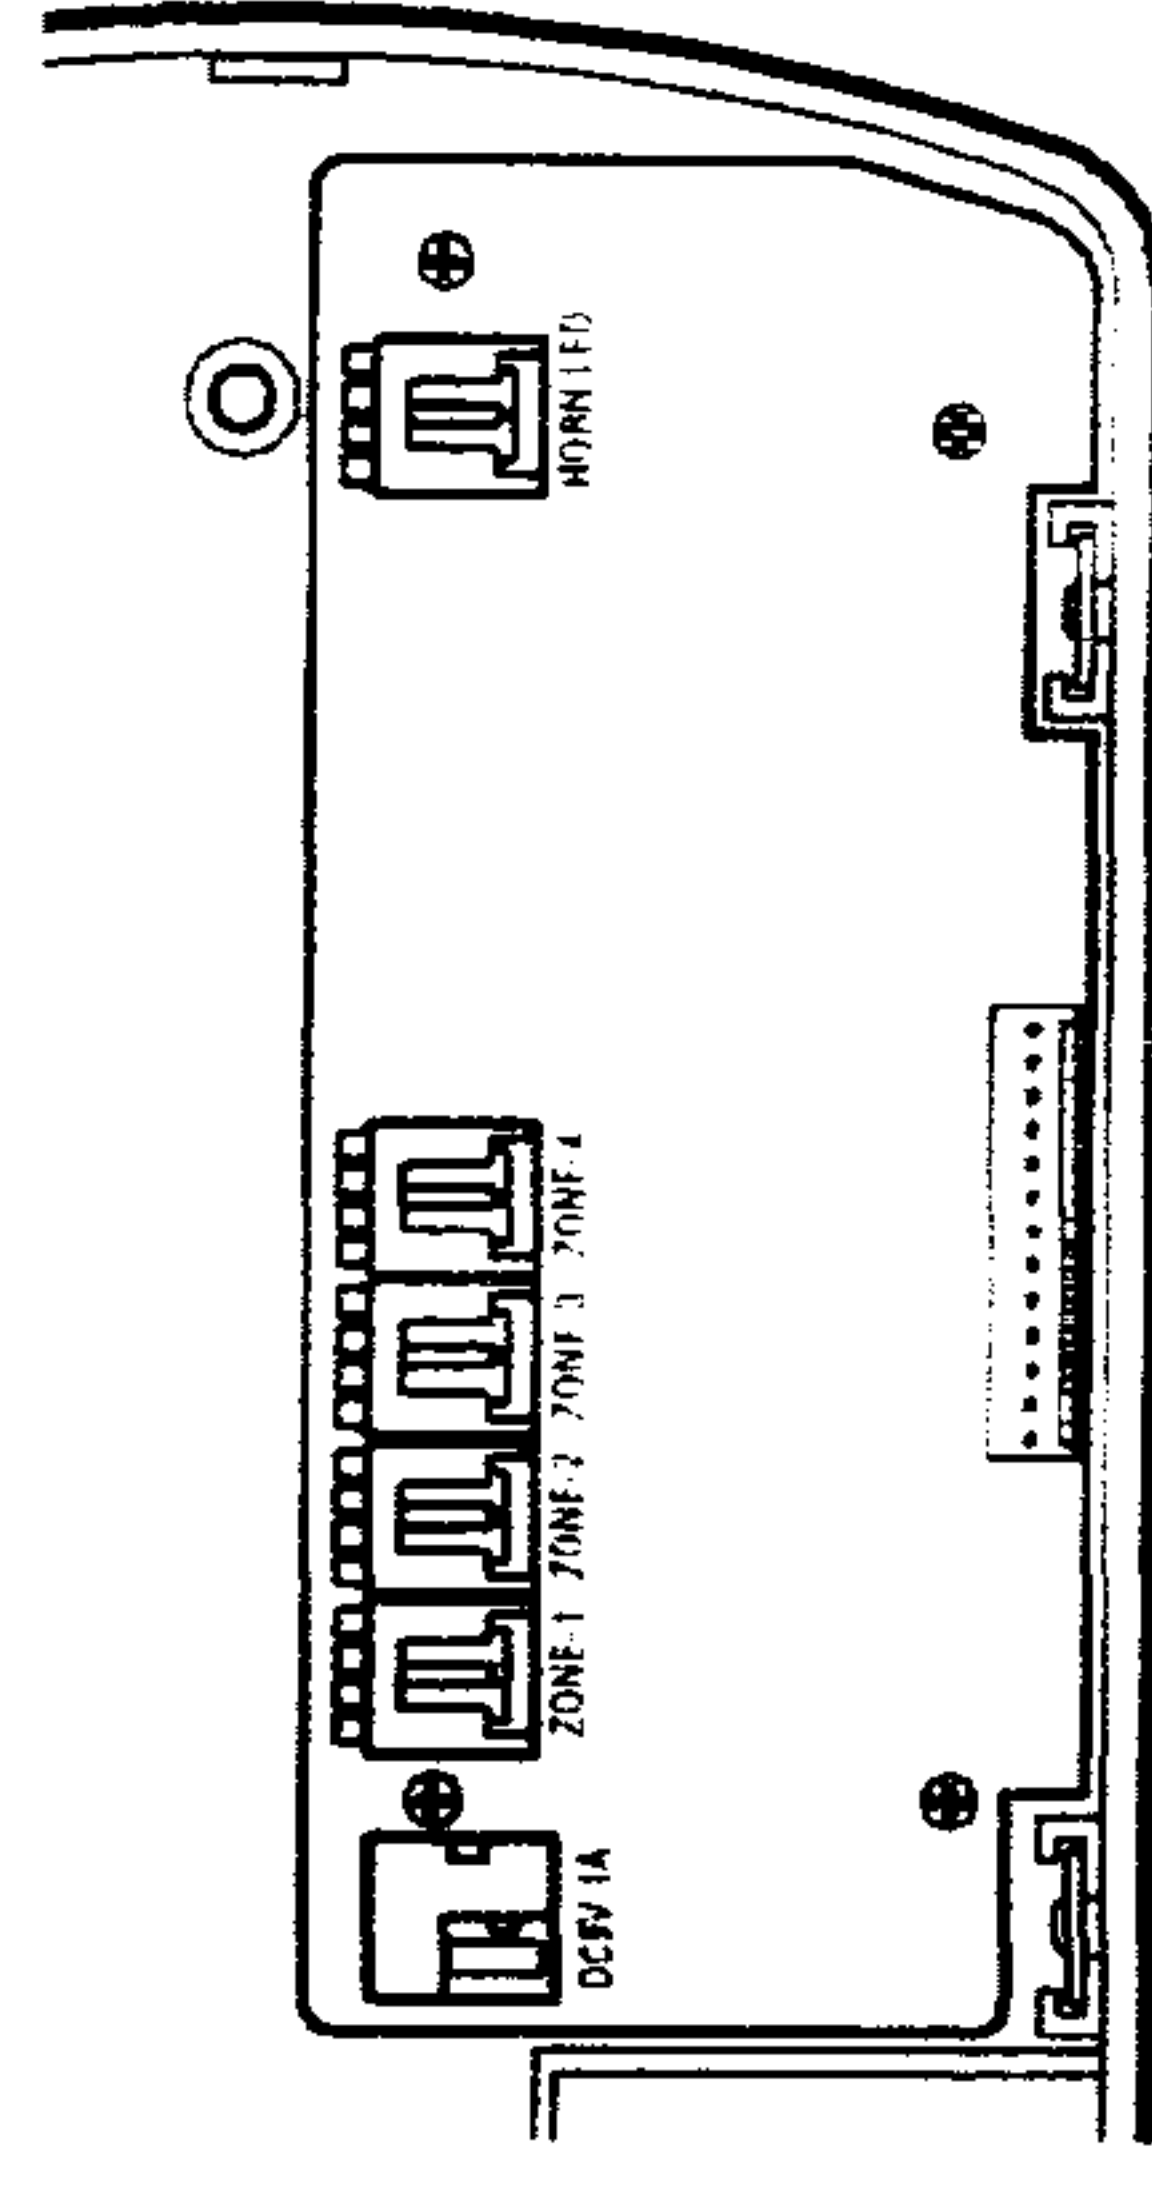

Fig. 5 Control panel connections
Step 14. Push fit the mains adaptor jack plug into the receiving socket on the pair of back plate (see Fig 5). Run the mains adaptor cable to the AC socket (electricity source) and plug in the mains adaptor.
Step 15. Connect the circuit board socket(2)(see Fig 5) at the control panel back plate. Make sure you do not pinch or trap wires, re-fit the control panel to the back plate, securing with the 2 screws (3).